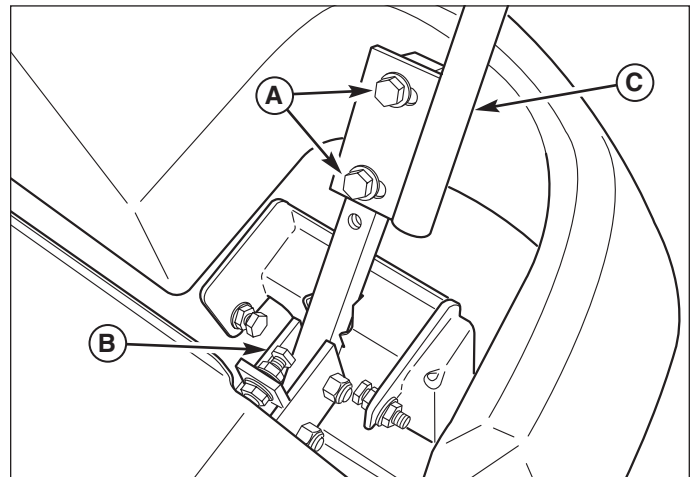

Figure 23. Control Lever Adjustment
Loosen the mount bolts (A, Figure 23) and pivot the lever(s) (C) to align with each other.
Loosen the jam nuts and adjust the placement bolt (B, Figure 23) in or out to properly adjust the lever end spacing.